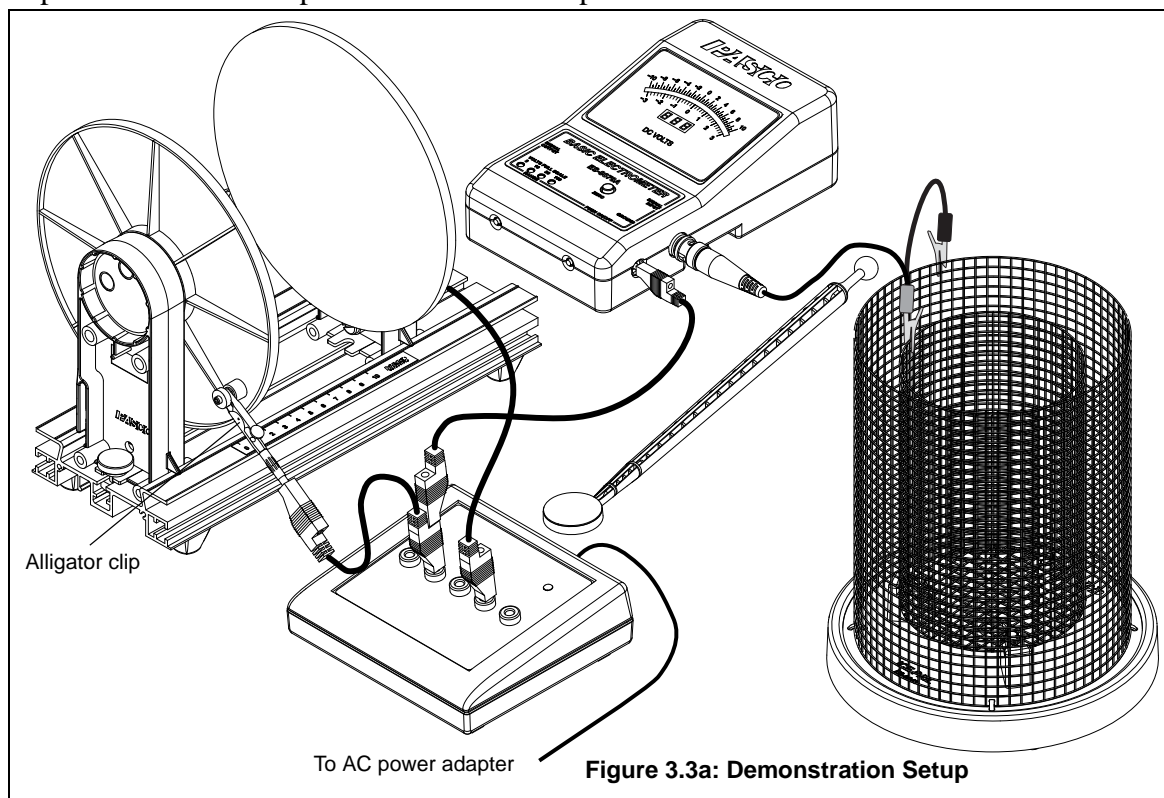

Figure 3.3a: Demonstration Setup
- Figure 3.3a above shows the equipment set up. The Basic Variable Capacitor has an initial plate separation of 6 cm and is connected to the +2000 VDC port on the voltage source. The Faraday Ice Pail is connected to the electrometer, and the electrometer is grounded to earth ground (i.e., through the COM port on the electrostatics voltage source).